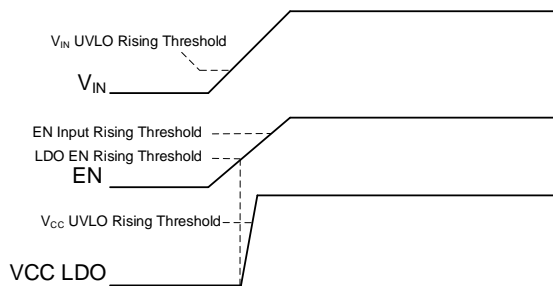
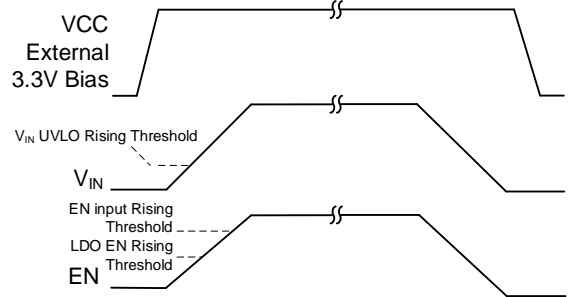

Figure 6: Power-Up Sequence with Internal LDO and Two EN Thresholds
Figure 7: Power-Up Sequence with External VCC Bias
The MPQ8626 supports using an external 3.3V VCC bias (see Figure 7). When the external VCC bias is used, it is recommended to apply the external VCC bias before the V_{IN} UVLO rising threshold or LDO EN rising threshold is reached. If the external VCC bias is applied after the V_{IN} UVLO rising threshold and LDO EN rising threshold are reached, the LDO must output and provide power to the load, which is supposed to be supplied by the external VCC.
| | | Added the Reflow Temperature Profile information; Renumbered Figure 7 to Figure 6 | 20 |
| | | <ul style="list-style-type: none"> Added the Enable (EN) Thresholds and Power Sequence with External VCC Bias sections Added Figure 6 and Figure 7 | 17 |
| | | Updated Figure 7 to Figure 9 | 20 |